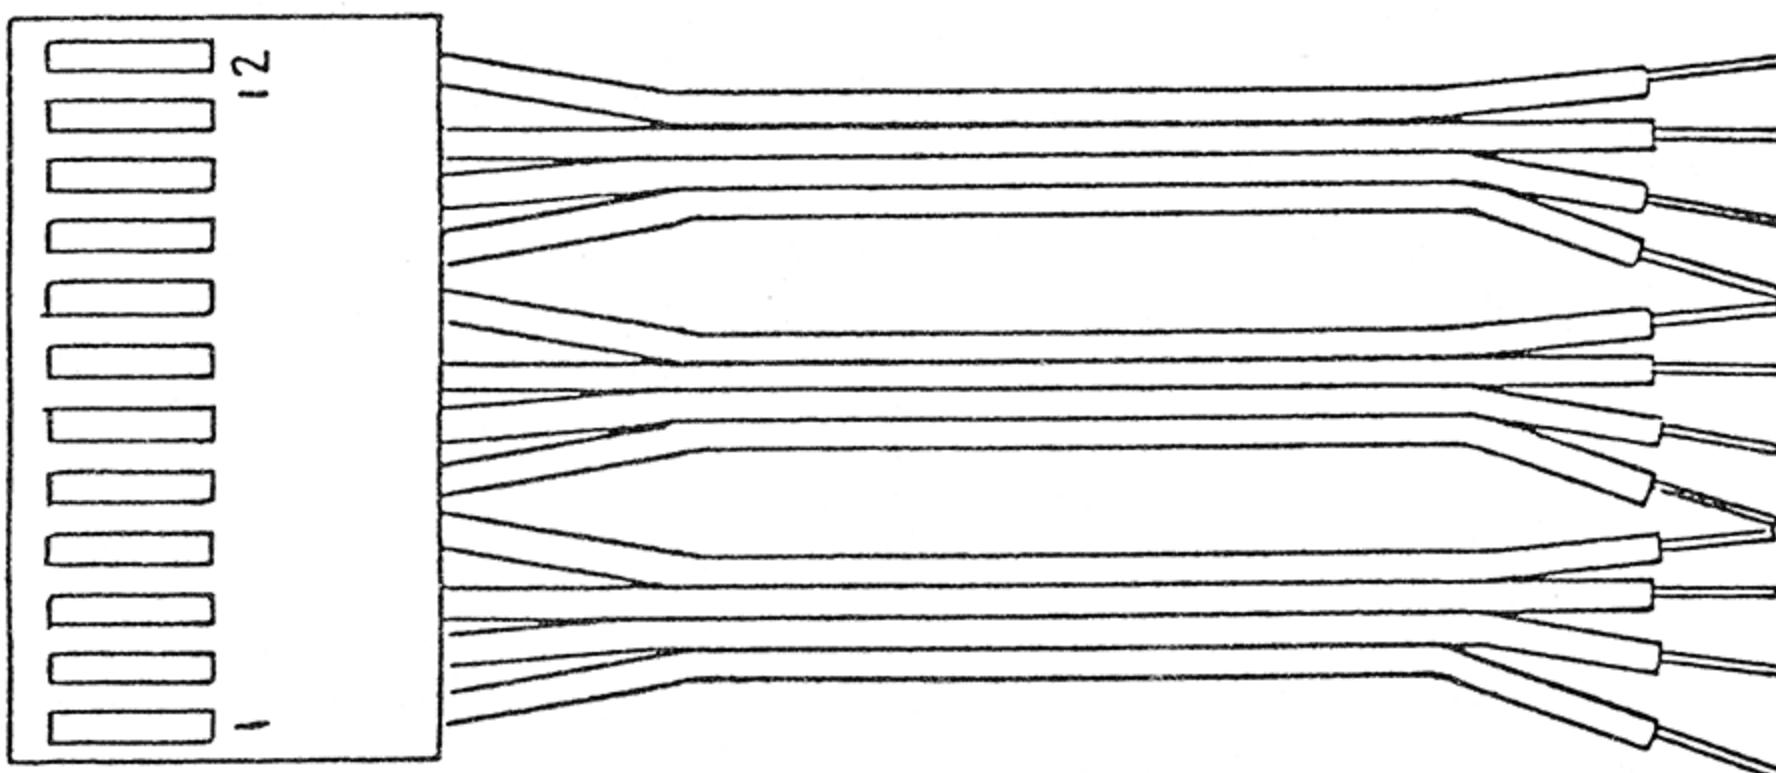

Figure 8-1. Flat-wire Type Cable
- ° A flat-wire type cable, with female connector (see Figure 8-1) which plugs into a male 12-pin in-line connector on the switch board.